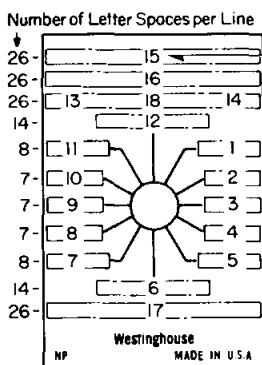

Figure 1
- NP 502A054H01 (Fixed Handle) Fig. 1
- NP 502A054H03 (Removable Key) Fig. 1